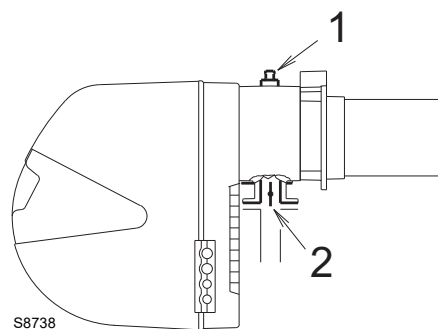

Fig. 23
Gas pressure measured at test point 1)(Fig. 23), with:
Pressure drop at gas butterfly valve 2)(Fig. 23) with maximum opening: 90°.
- subtract the combustion chamber pressure from the gas pressure measured at test point 1) (Fig. 23).
To calculate the required gas pressure at test point 1) (Fig. 23), set the maximum modulating output required from the burner operation:
- Read, on the right (column 1), the pressure at the test point 1) (Fig. 23).
pressure required at test point 1)(Fig. 23).